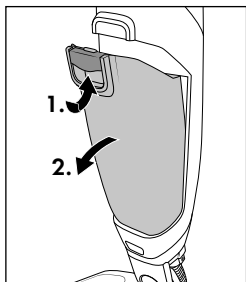

Fig. 13
- ◆ Lift the release lever **9** and pull the dirt container **10** forwards off the appliance (see fig. 13) at the same time.